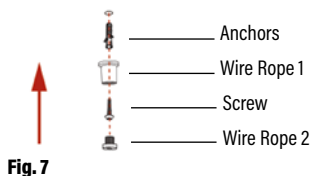

Fig. 7
1. Drill two holes in the ceiling. Put the anchors into the holes, then insert the wire ropes and screw (Fig. 7)